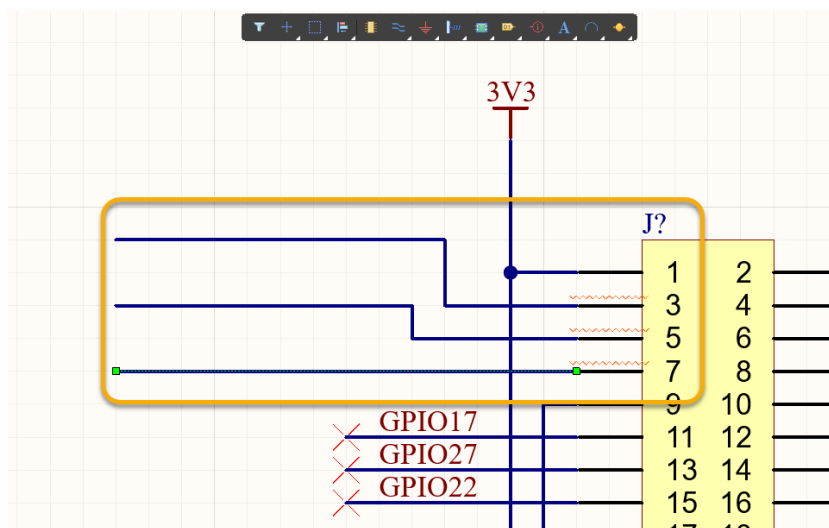

Figure 18. Place Wires
25. Using the **Active Bar**, first place wires on J4 pins 3, 5 and 7, as shown in Figure 18.